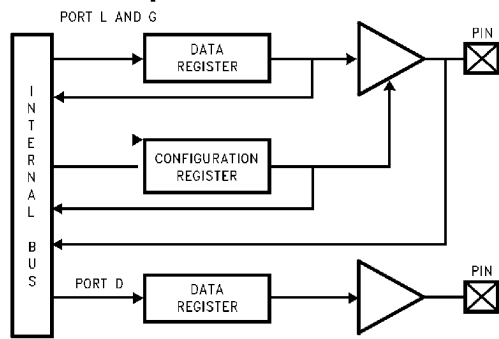

FIGURE 5. I/O Port Configurations
The device contains one bidirectional 8-bit I/O port (G), and one 7-bit bidirectional I/O port (L) where each individual bit may be independently configured as an input (Schmitt trigger inputs on ports G and L), output or TRI-STATE under program control. Three data memory address locations are allocated for each of these I/O ports. Each I/O port has two associated 8-bit memory mapped registers, the CONFIGURATION register and the output DATA register. A memory mapped address is also reserved for the input pins of each I/O port. (See the memory map for the various addresses associated with the I/O ports.) Figure 5 shows the I/O port configurations for the device. The DATA and CONFIGURATION registers allow for each port bit to be individually configured under software control as shown below: